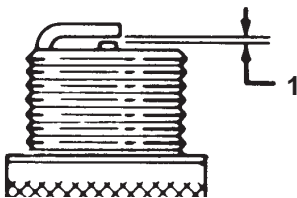

Figure 36
6. Set the gap between the electrodes on the spark plug at 0.030 in. (0.76 mm) as shown in Figure 36.